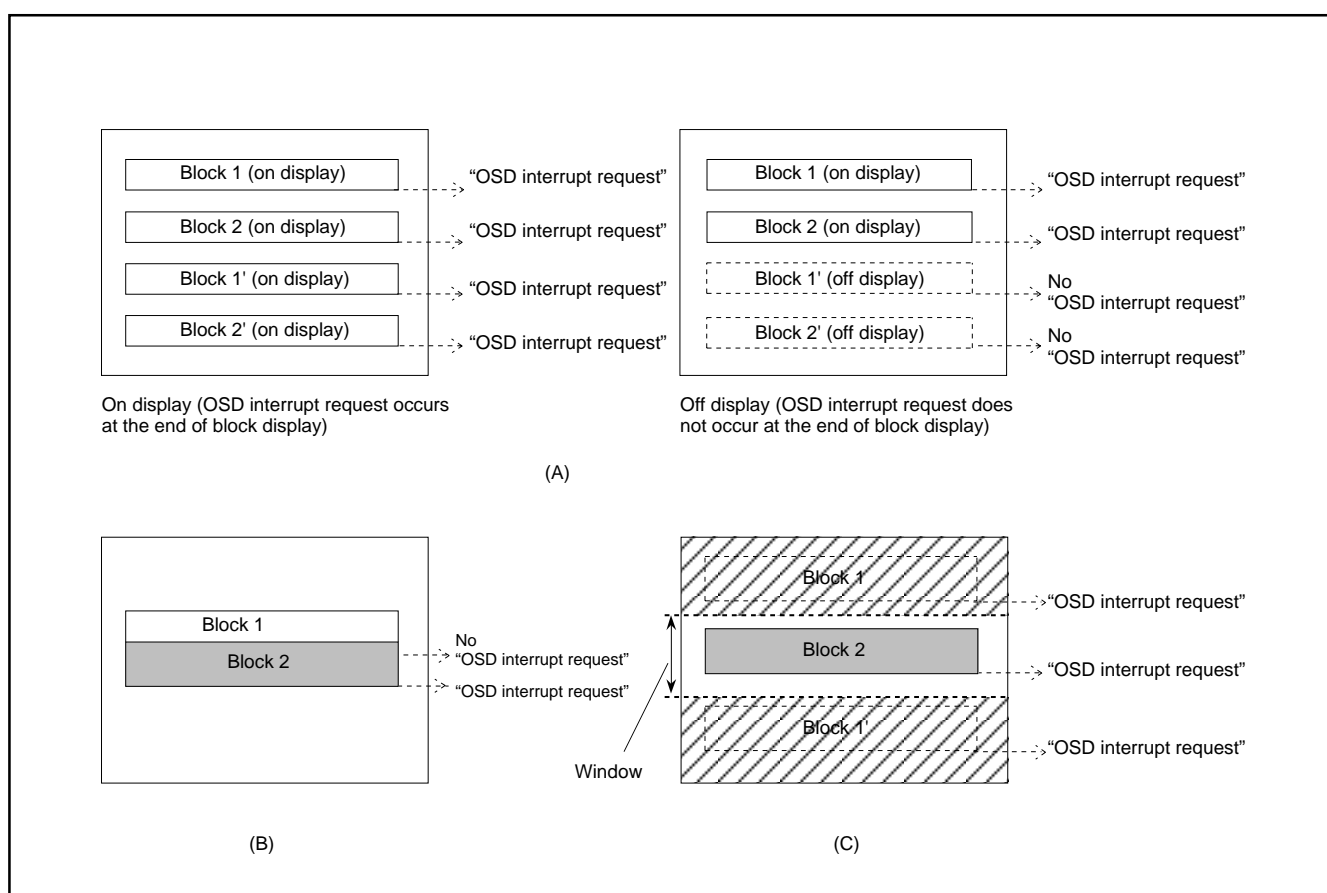

Fig. 8.10.26 Note on Occurrence of OSD Interrupt
Notes 1: An OSD interrupt does not occur at the end of display when the block is not displayed. In other words, if a block is set to off display by the display control bit of the block control register i (addresses 00F916 and 00FA16), an OSD interrupt request does not occur (refer to Figure 8.10.26 (A)).
2: When another block display appears while one block is displayed, an OSD interrupt request occurs only once at the end of the another block display (refer to Figure 8.10.26 (B)).